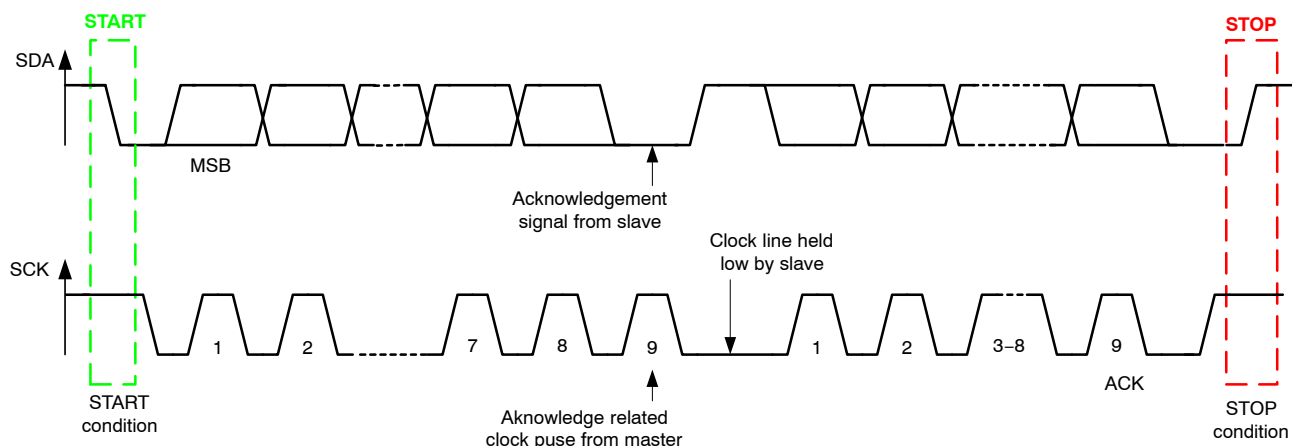

Figure 25. Data Transfer on the I²C-bus
The bus stays busy if a repeated START (Sr) is generated instead of a STOP condition. In this respect, the START (S) and repeated START (Sr) conditions are functionally identical (See Figure 25). The symbol S will be used to represent START and repeated START, unless otherwise noted.
most significant bit (MSB) first (See Figure 25). If a slave can't receive or transmit another complete byte of data, it can hold the clock line SCK LOW to force the master into a wait state. Data transfer then continues when the slave is ready for another byte of data and releases clock line SCK.